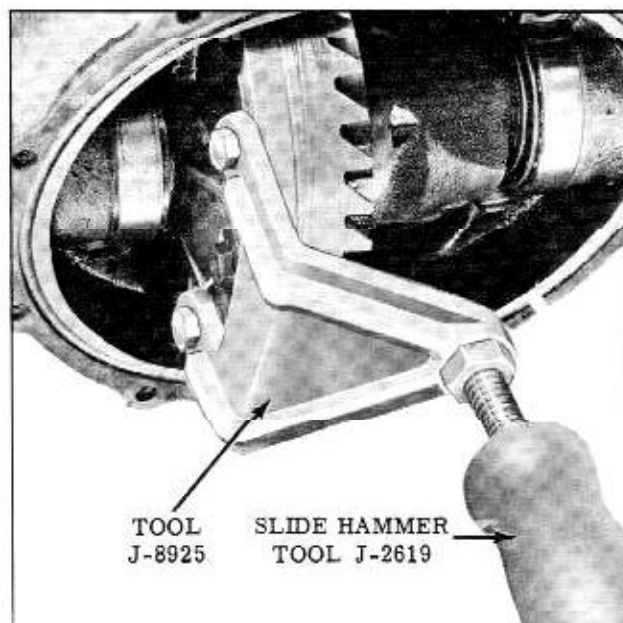

Figure 6-7 Removing Case Assembly
6. Attach Tool J-8925 with Slide Hammer J-2619 to ring gear. (Fig. 6-7)